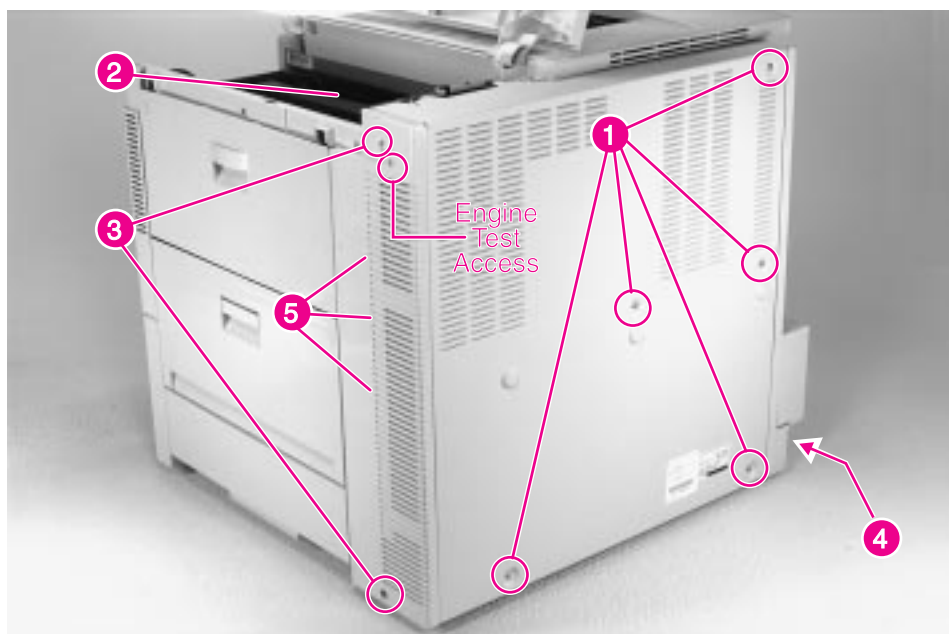

Figure 6-5 Back Cover
- 1 Remove 5 screws (figure 6-5, callout 1).
- 2 Open the top cover door, and remove 1 screw (figure 6-5, callout 2)
- 4 Remove 2 screws (figure 6-5, callout 3) from the plastic panel to the left of the metal back cover.
- 5 Carefully release the cover around the AC input connector (figure 6-5, callout 4) at the lower right of the back cover, and slide the right side of the cover slightly forward.
- 6 Carefully release the retaining tabs (figure 6-5, callout 5) on the plastic panel to the left of the metal back cover by gently pulling the cover to the left while moving both pieces away from the printer chassis.
- 1 Remove the back cover assembly (see figure 6-5).